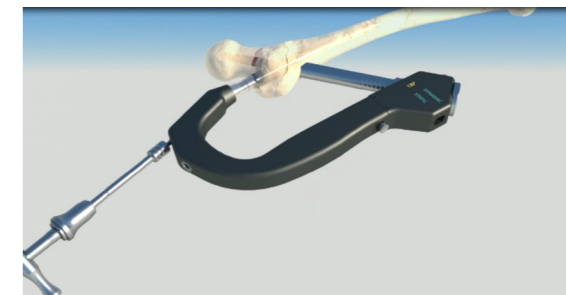

Figure 17a
- Use a universal wrench to lock the pre-set tightening screw inside the main nail, locking the tension screw system (Figure 17a).